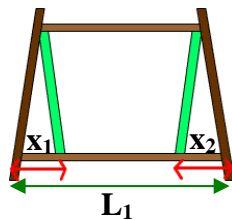
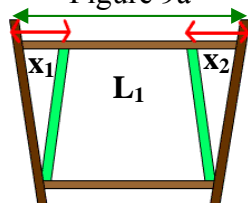

Figure 9a
Figure 10a
4.7.3 For adjacent floors in the model, if the floor above is wider than the one below when viewed from the side, such as in Figures 9a and 9b, the projection length of the bracing to the floor below, x_i , should be used, and L_i should be taken as the column spacing on the bottom floor. Meanwhile, if the floor below has a larger width than the one above, as in Figures 10a and 10b, then x_i should be the upward projection length of the bracing to the floor above, while L_i is the column spacing on the top floor.